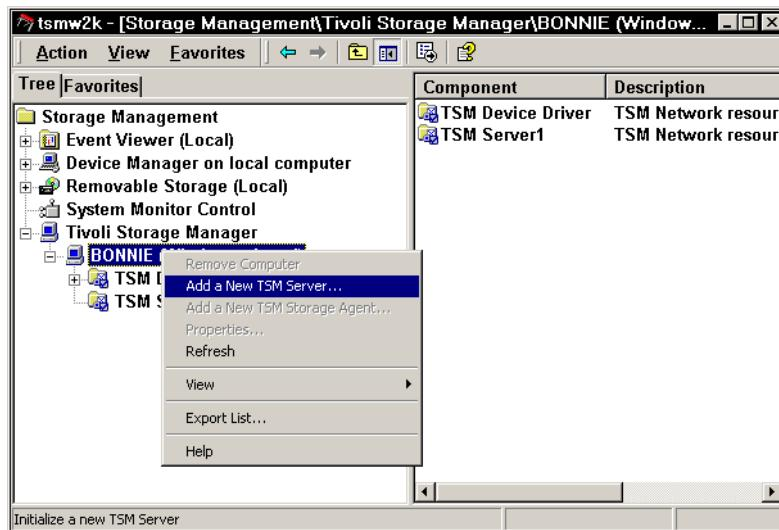

Figure 6-4 Initialising the TSM Server
**Manager>Management Console.** Note the TSM Management Console is an application for the Microsoft Management Console (MMC). Click on Tivoli Storage Manager and scroll down to the entry which matches the server just installed. In this instance this is server 'BONNIE'. Right click on the server name and select **Add a new TSM Server** as shown in Figure 6-4.